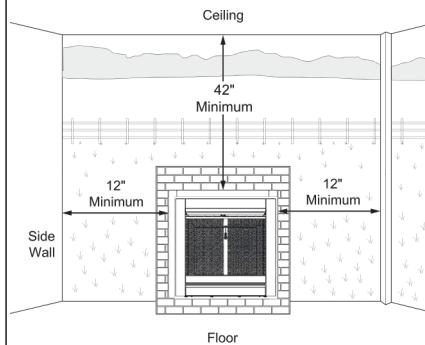

Figure 2 - Minimum Clearance for Combustibles
**⚠ WARNING:** You must maintain the minimum clearances. If possible, provide greater clearances from floor, ceiling, and adjoining wall. See figure 2.
**⚠ WARNING:** The appliance requires a minimum enclosure height as measured from the appliance face frame, see Figure 2.